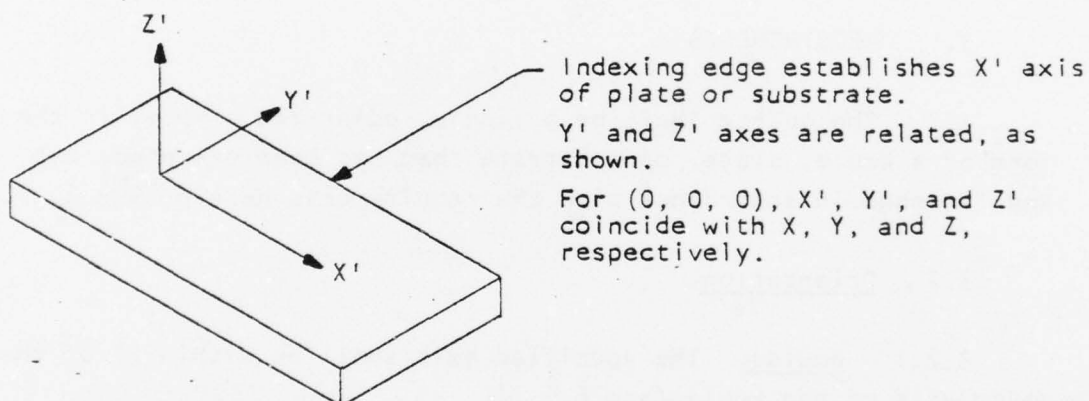

FIGURE 1: IDENTIFICATION OF SURFACE AXES FOR PLATES AND SUBSTRATES
3.2.2 Plates and substrates. The crystalline axes (X Y Z) shall be oriented to the surface axes (X' Y' Z') of the plate or substrate (Figure 1) as determined by the applicable Eulerian angles ( $\phi$  &  $\psi$ ) specified in Table II. Eulerian angles are defined in Standard Design Drawing P81 (summary of the description given in Classical Mechanics by Herbert Goldstein).